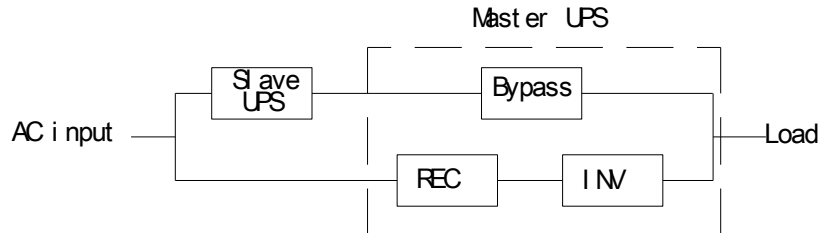

Figure 2.7
2.8.1 Make the slave UPS's input connect to the master UPS's bypass input, and then it becomes a hot-standby system. See figure 2.7